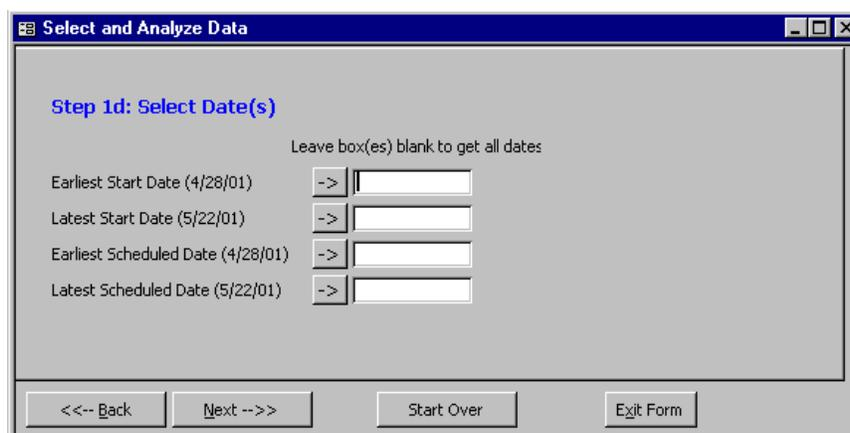

Figure 4-6. Select Date(s) form.
Once the analytes have been selected, the Select Date(s) form (Figure 4-6) will be displayed.
- “<<-- Back,” which returns you to the Select Date(s) form (Figure 4-6).